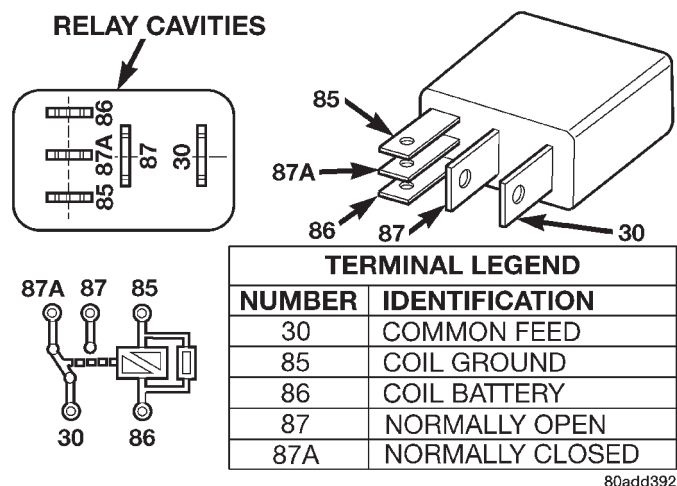

Fig. 11 Type-2 Relay
(14) If equipped with **type-2 relay** (Fig. 11), attach test leads from LCS adapter into PDC relay cavities number 30 and 87. For location of these cavities, refer to numbers stamped to bottom of relay (Fig. 11).